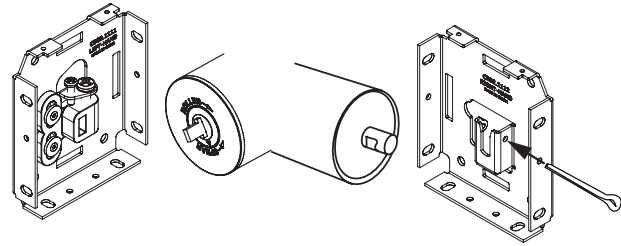

Figure 8
- ⑭ Slide the roller assembly into the brackets, spear-end first (see Fig. 8). The triangular shaped arrow on the end of the device MUST now be pointed up away from the ground when installed (see Fig. 6a). Pointing the arrow upward will insure that the mechanism will not "lock" during operation. Raising the hem-bar about 1/4-turn will "un-lock" the device, providing constant tension on the fabric panel. Insure that the hem-bar cannot move (counter-clockwise) around the roller until the installation is complete.
- ⑮ Install the 3/32" diameter x 7/8" long cotter pin through the fabric roller idler bracket to secure the roller (see Fig. 8). Bend one leg of the cotter pin down to lock it into place.
- ⑯ Carefully pull one side of the draw cable up and around the back-side of the operator roller. Wrap the cable 1.5 revolutions around the tube. Grip the end of the draw cable between the flat washer and roller tube (on the inner side, toward the center of the shade), then, tighten the nut. **Do NOT** trim draw cables until after step 21.